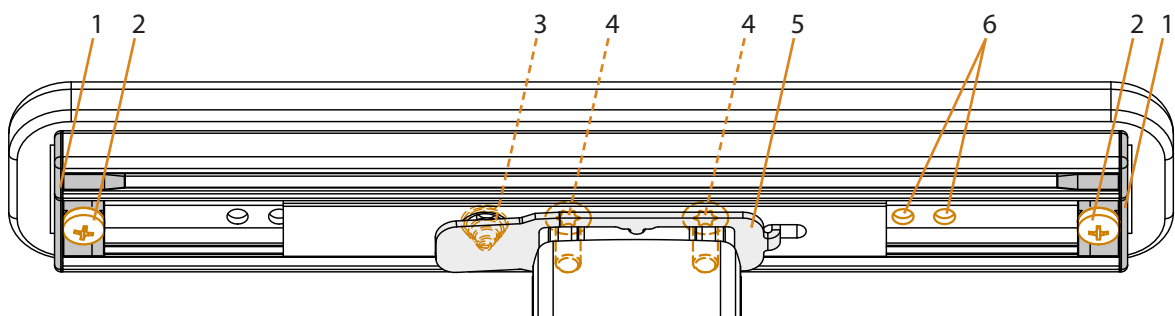

Figure 31. Armrest depth adjustment
The mechanism that controls the depth of the armrest pad consists of a spring-loaded latch (5 in Figure 31) that locks in a number of holes (6) in the armrest profile. The armrest profile is identical for all armrest models but the latch mechanism is different for standard versus angle adjustable models.
The armrest pad is removed by unscrewing the screws (2 in Figure 31). It is important that the new armrest pad is assembled correctly, it is not symmetric. Note that the end caps (1) are fastened with the same screws that hold the pad in place, check that the caps remain in place when re-assembling.